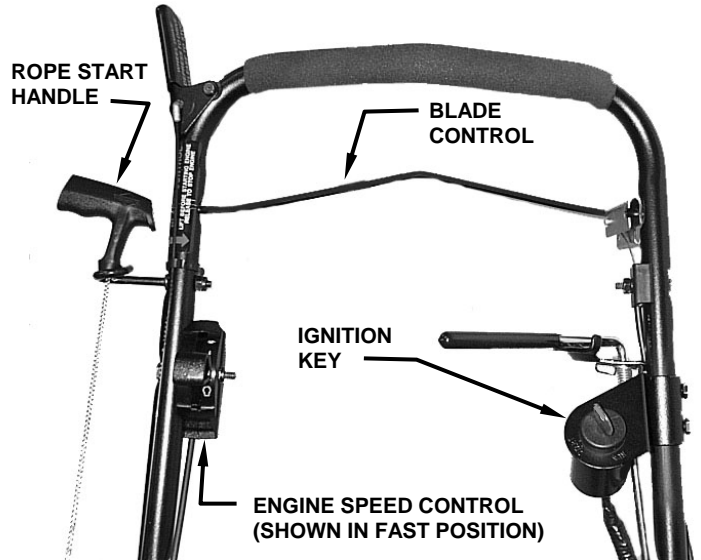

FIGURE 2.3
1. Move engine speed control to the "Fast" (Rabbit) position. See Figure 2.3.
4. Turn key to the start position until engine starts. See Figure 2.3.